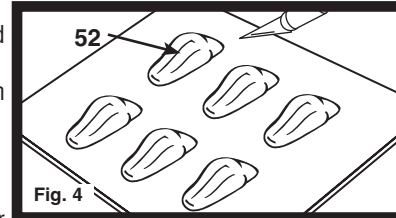

Fig. 4
2. Cut around edges with a sharp hobby knife (Fig. 4), and then remove Awning bottoms. Touch up with paint as needed.